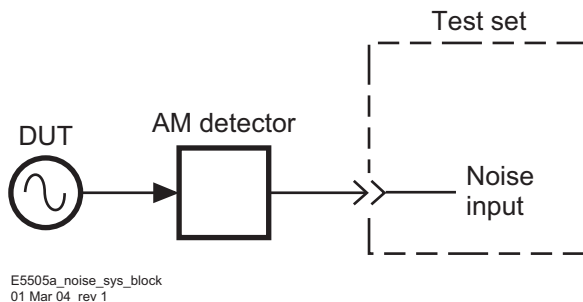
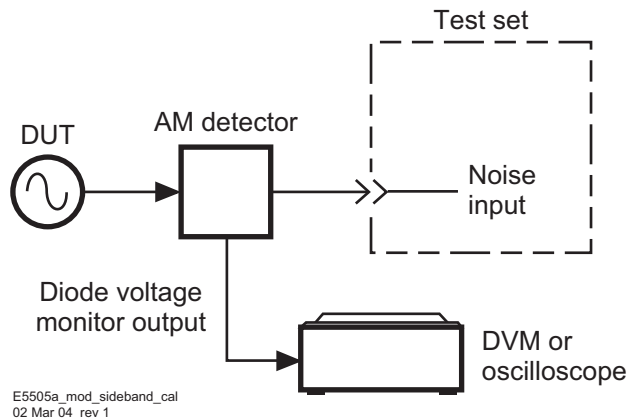

Figure 225 Phase detector constant AM noise setup (method 1, example 2)
Figure 226 Modulation sideband calibration setup
- 1 Using Figure 225 and Figure 226, connect circuit and tighten all connections. If the N5500A Option 001 or N5507A is available, use one of the connection diagrams described in “AM noise measurement block diagrams” on page 285.